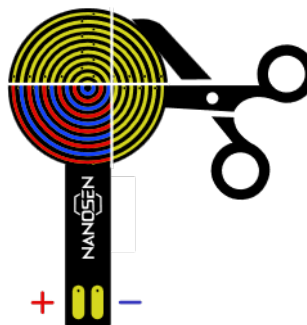

Figure 2: Contact connection after cutting
- The electrodes can be cutted with, for example, scissors (see Figure 2)
- The graphic shows the minimum active area that can be retained after cutting the electrode, depicted here in blue and red (see Figure 2)